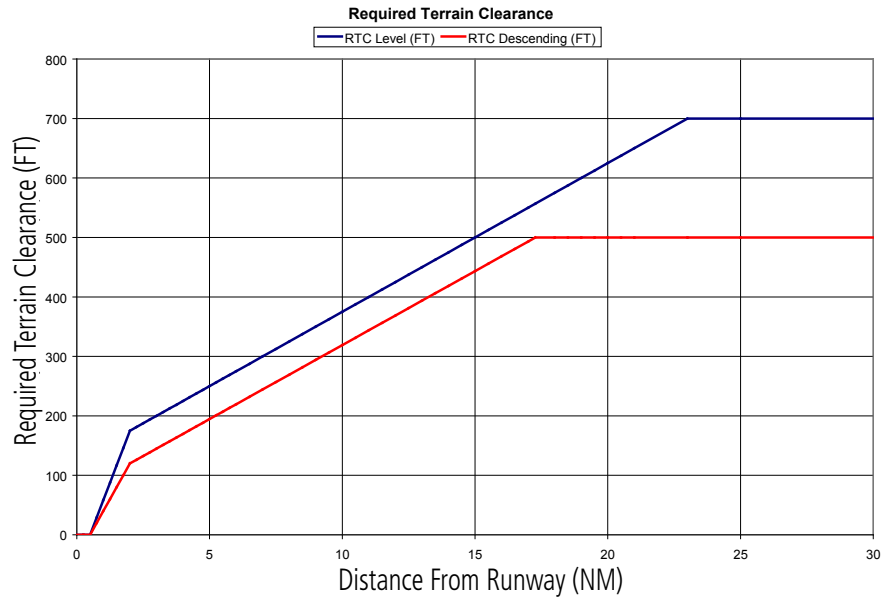

Figure 6-80 FLTA Alert Minimum Terrain and Obstacle Clearance Values
**Reduced Required Terrain Clearance (RTC)** and **Reduced Required Obstacle Clearance (ROC)** alerts are issued when the aircraft flight path is above terrain, yet is projected to come within the minimum clearance values in Figure 6-80. When an RTC alert is issued, a potential impact point is displayed on the TAWS-B Page.
**Imminent Terrain Impact (ITI)** and **Imminent Obstacle Impact (IOI)** alerts are issued when the aircraft is below the elevation of a terrain or obstacle cell in the aircraft's projected path. ITI and IOI alerts are accompanied by a potential impact point displayed on the TAWS-B Page. The alert is annunciated when the projected vertical flight path is calculated to come within minimum clearance altitudes in Figure 6-80.